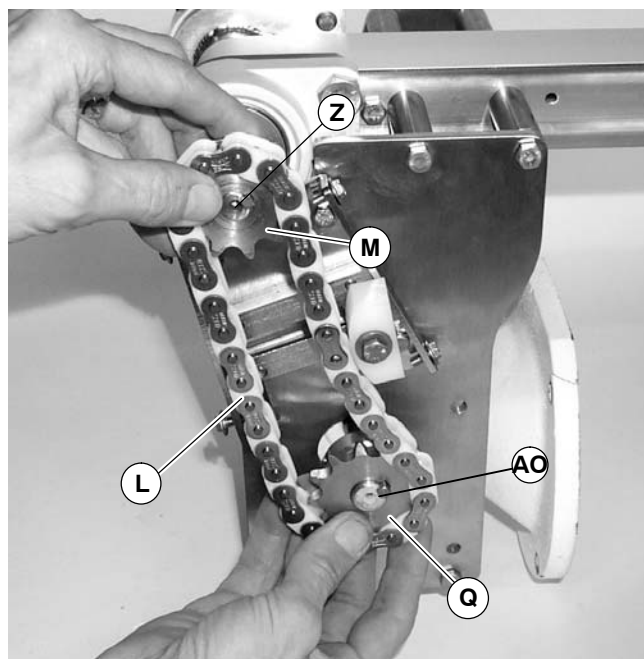

Figure 14
3. Install timing chain (L of Figure 14) over sprockets (M and Q). Install timing chain and sprockets on conveyor input shaft (Z) and gear reducer output shaft (AO). Do not tighten sprocket set screws.